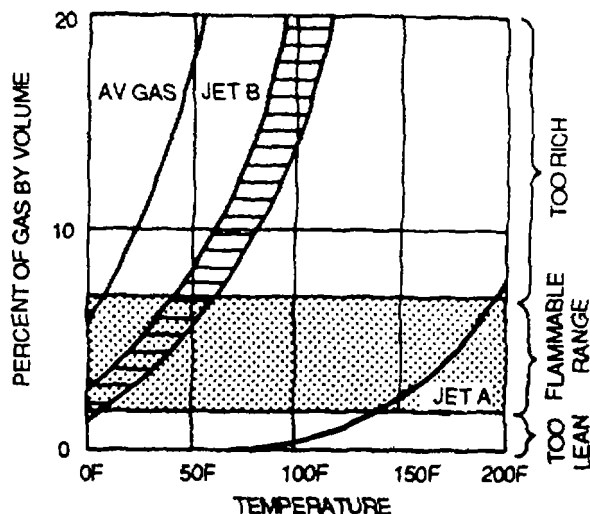

Figure 2-1. Vaporization Characteristics
(2) *Turbine fuel volatility.* One of the most important characteristics of turbine fuel is its volatility. A high volatility is desirable to aid cold-weather starting and to make aerial restarts easier and more sure. Low volatility is desirable to reduce the possibility of vapor lock and to reduce fuel loss by evaporation. Figure 2-1 shows the vaporization characteristics of aviation fuels at atmospheric pressure.
(2) *AVGAS volatility.* Volatility is a measure of the tendency of a liquid to vaporize. AVGAS is a complex blend of volatile hydrocarbons that have a wide range of boiling points and vapor pressures. It is blended to form a straight chain of boiling points. This is necessary to obtain the required starting, acceleration, power, and fuel mixture characteristics for the engine. Vaporization characteristics are shown in figure 2-1.